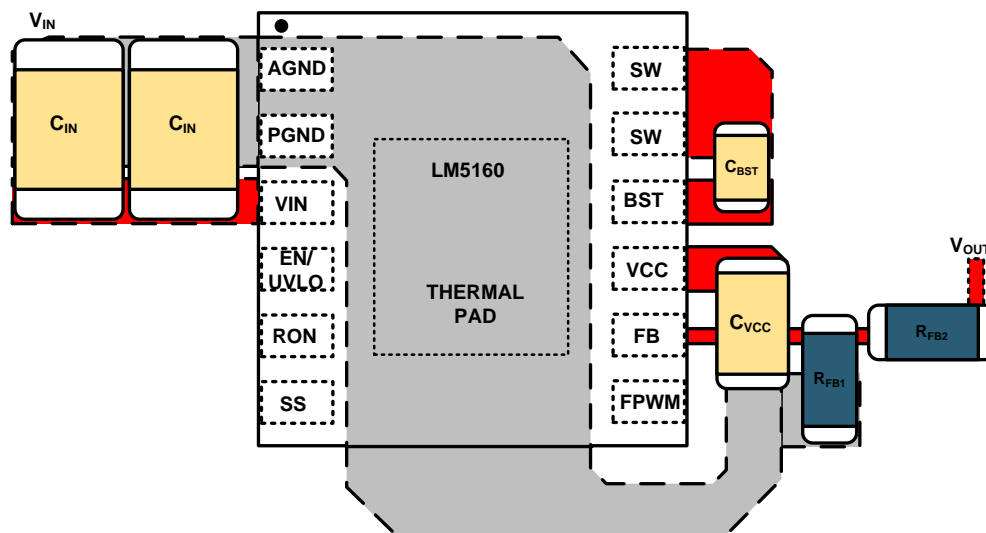

Figure 35. Placement of Bypass Capacitors
- $C_{IN}$ : The loop consisting of input capacitor ( $C_{IN}$ ), VIN pin and PGND pin carries the switching current. The input capacitor must be placed close to the IC, directly across VIN and PGND pins, and the connections to these two pins must be direct to minimize the switching power loop area. In general, it is not possible to place all of input capacitances near the IC. A good layout practice includes placing the bulk capacitor(s) as close as possible to the VIN pin (see Figure 35). A bypass capacitor measuring  $0.1\ \mu\text{F}$  must be placed directly across VIN and PGND (pin 3 and 2, respectively), as close as possible to the IC while complying with all layout design rules.
- $C_{VCC}$  and  $C_{BST}$ : The VCC and bootstrap (BST) bypass capacitors supply switching currents to the high-side and low-side gate drivers. These two capacitors must also be placed as close to the IC as possible, and the connecting trace length and loop area must be minimized (see Figure 35).